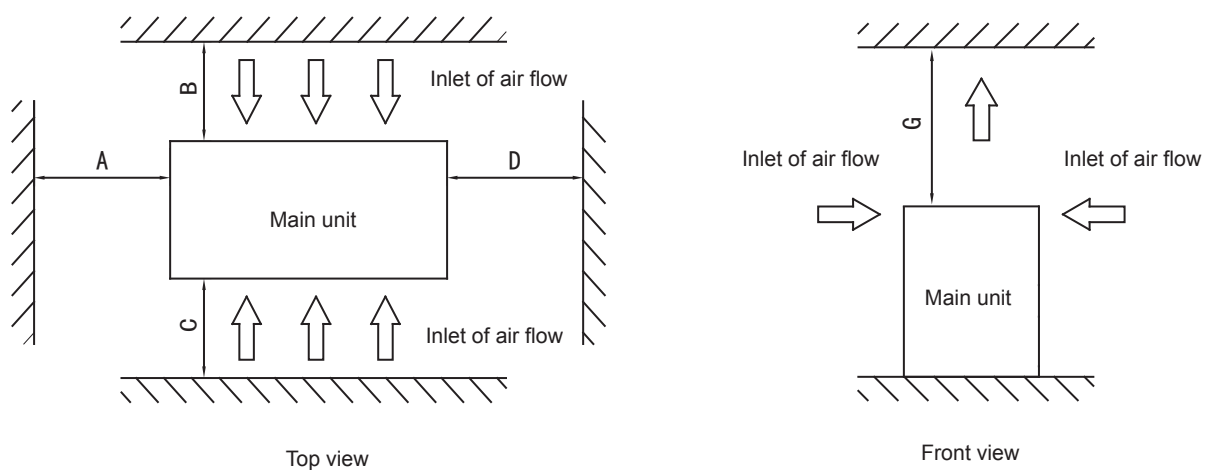
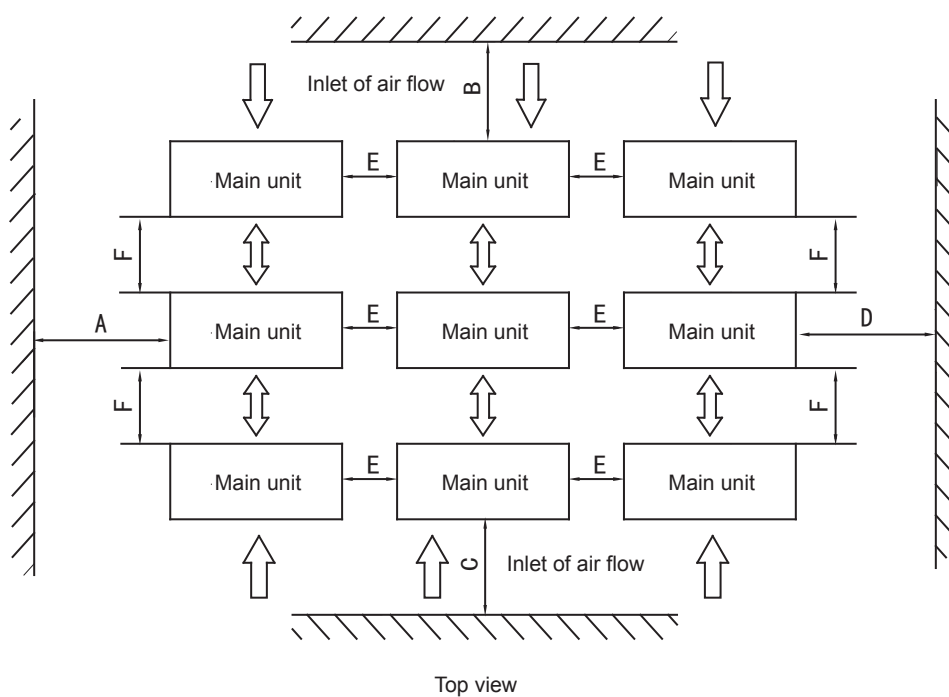

Fig. 6-4 Single unit installation
Fig. 6-5 Multiple units installation
d. To avoid back flow of the air in the condenser and operational faults of the unit, the parallel installation of multiple Modular units can follow the direction and distance as shown in Fig. 6-4, Fig. 6-5 and Table 6-2.